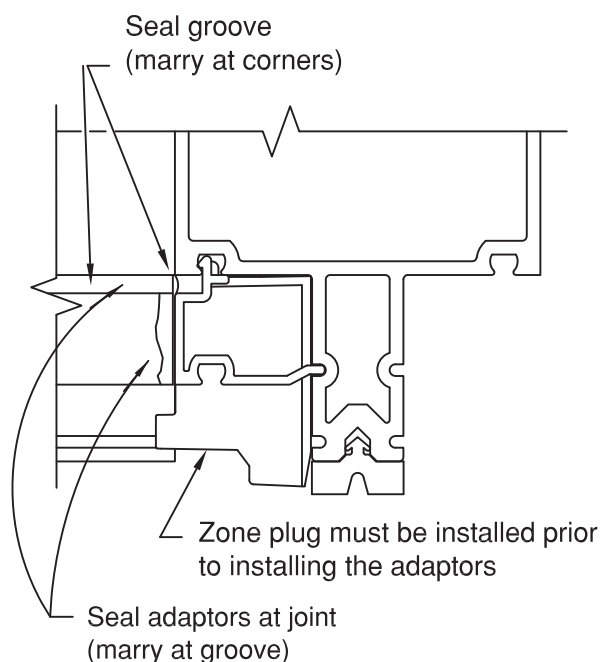
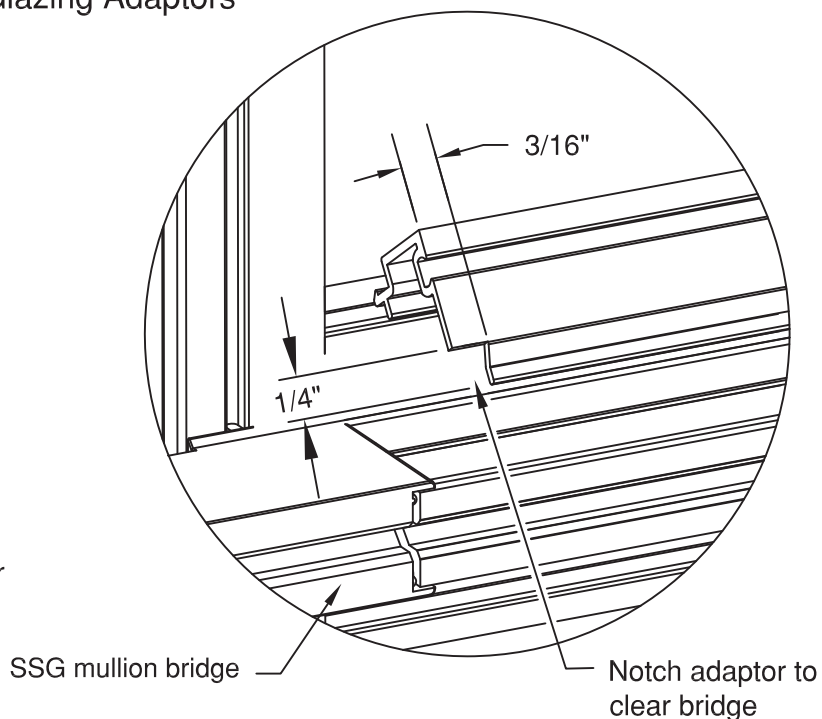

Figure 22
Figure 21
- A.3 Install horizontal adaptors maintaining an equal gap at each end. **Note: For horizontal adaptors that are adjacent to SSG mullions, a small notch must be made to the tongue engagement hook in order to clear the SSG mullion bridge.** **SEE FIGURE 21.** Once all adaptors have been installed in the opening, seal all joints between the vertical and horizontal adaptors. Run a bead of sealant in the groove formed between the adaptor and mullion. This seal must be continuous around opening and must marry with the seal at the horizontal to vertical adaptor joints. **SEE FIGURE 22.**